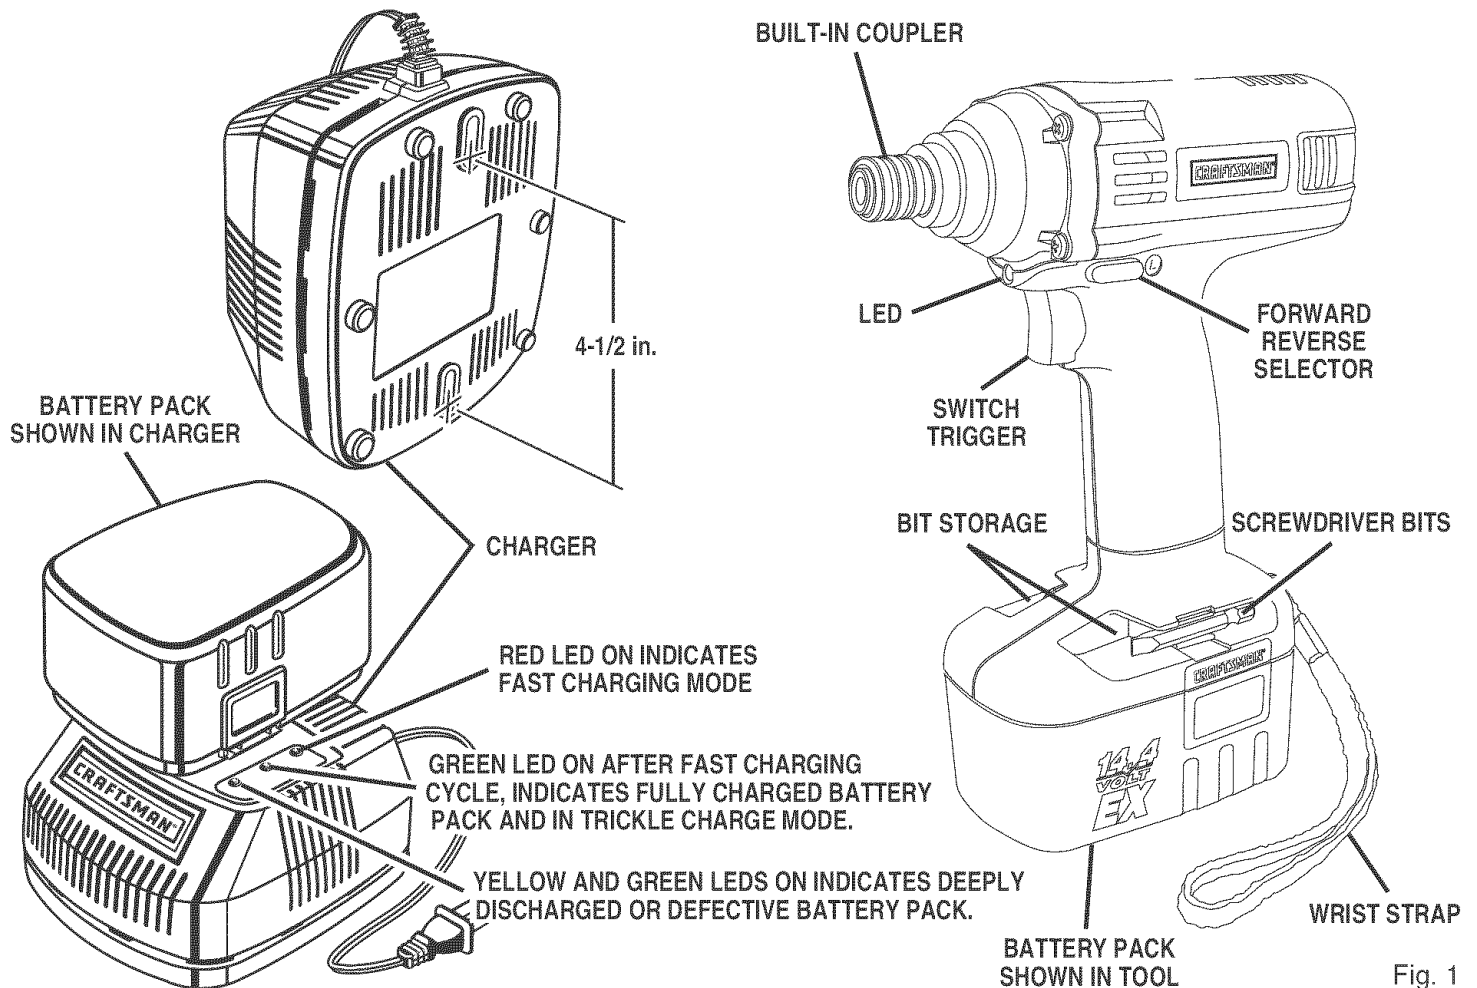

Fig. 1
This new impact-driver is equipped with the following features. See Figure 1.
See Figure 1.
- Place battery pack in charger aligning raised rib on battery pack with groove in charger. See Figure 1.